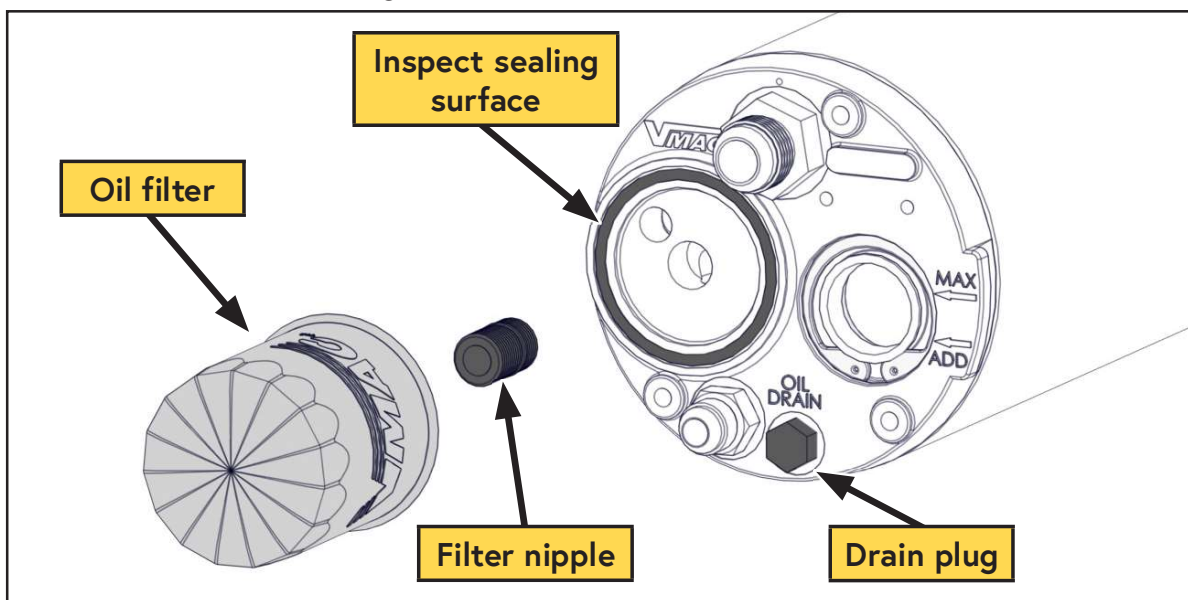

Figure 1 — Remove oil filter
- Remove the oil filter (Figure 1).
- Remove and discard the threaded oil filter nipple (the oil filter nipple has been installed from the factory using Loctite 242 (blue) (Figure 1).
- Clean the threads in the AOST to ensure there is no oil residue left, then apply Loctite Blue (242) to the threads
- Clean the gasket sealing surface on the front of the AOST and inspect it for damage. The surface must be free of old gasket material and smooth to ensure a good seal (Figure 1).